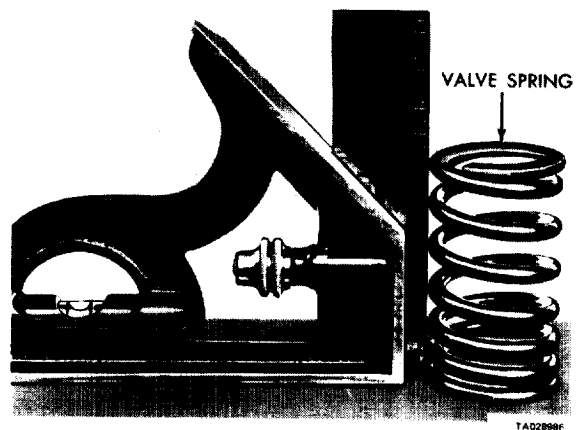

Figure 11-23. Inspecting Valve Spring Squareness.
(3) *Inspect for squareness.* Check each valve spring for squareness with a steel square and a surface plate (figure 11-23). Replace springs that are more than $1/16$ inch out-of-square.